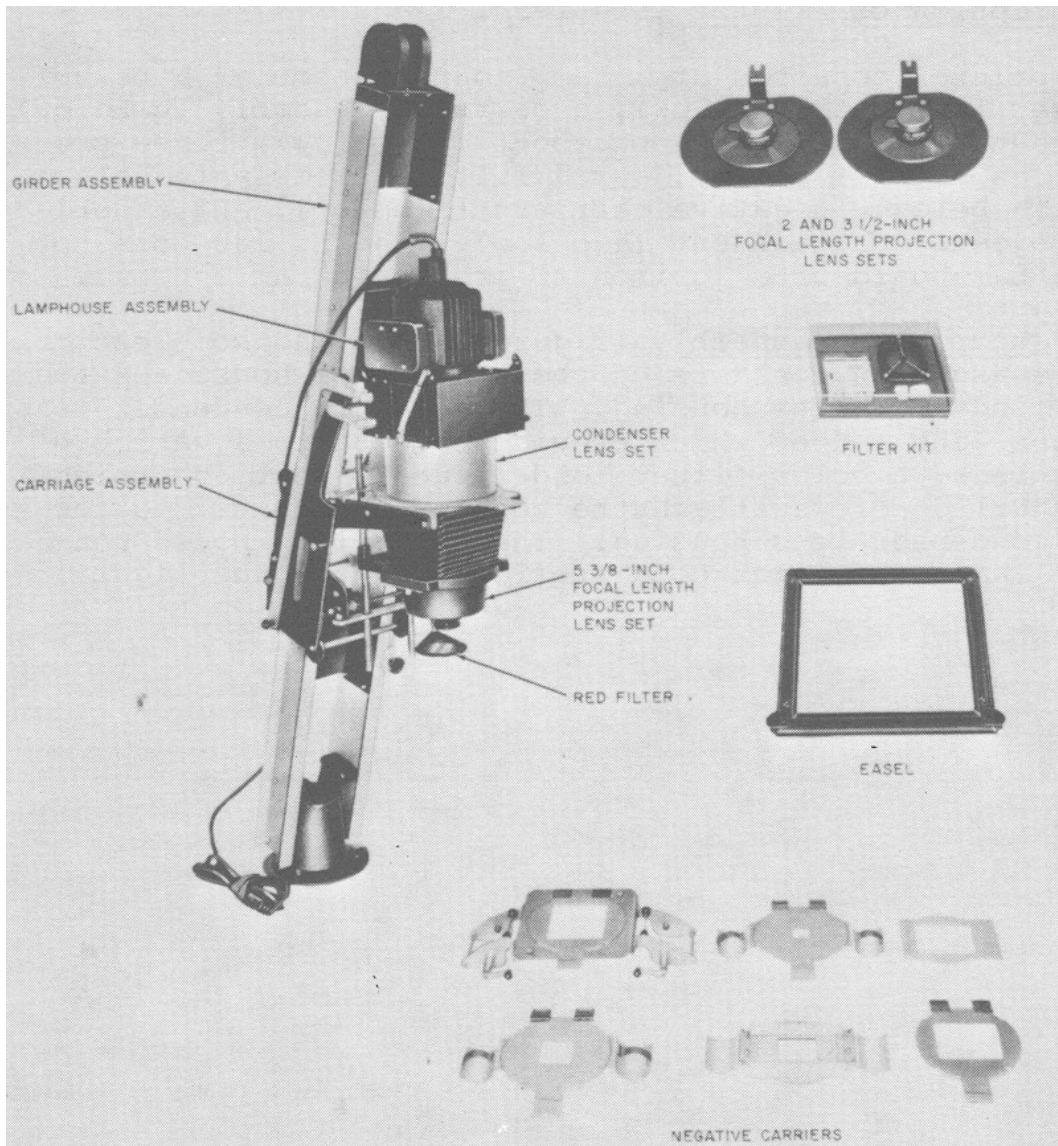

FIGURE 2-4. Printer, Projection, Photographic EN-18B.
m. Filter Kit, EN-18B only (figure 2-4). The filter kit is used with variable contrast papers. It consists of five plastic filters numbered from 0 to 4, a filter mounting frame and a bottle of antistatic solution.